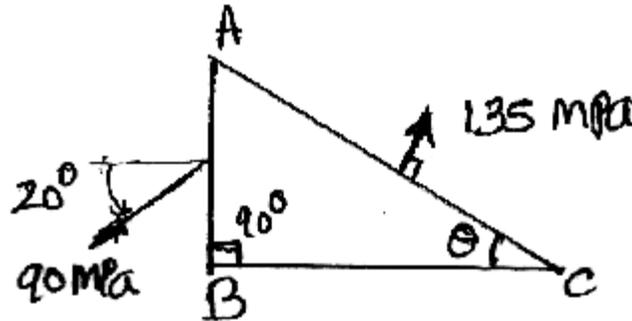

Fig. 11
9. (a) A triangular prism is subjected to two-dimensional stress, the planes subjected to stress being perpendicular to the plane of triangle ABC [Fig. 11]. AC is principal plane. On AB there is a tensile stress of 90 MPa having an angle of obliquity of  $20^\circ$  as shown and on BC there is also an oblique stress.